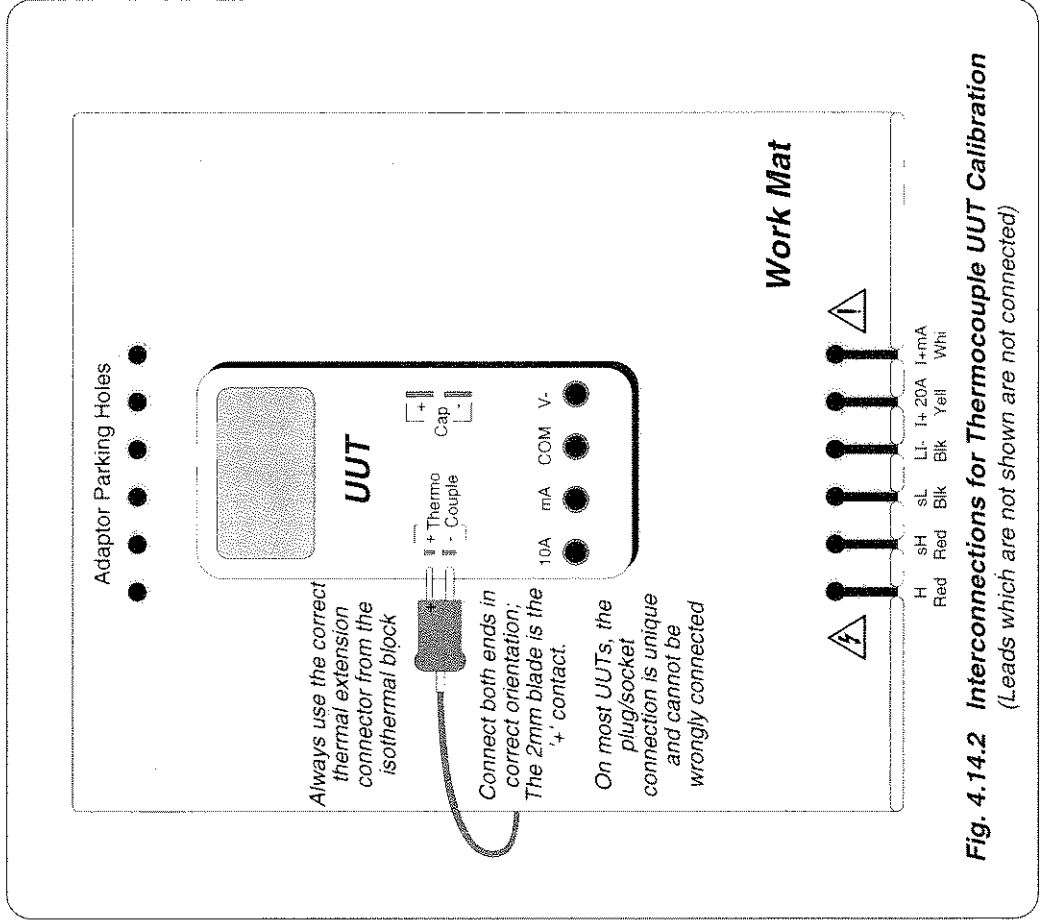

Fig. 4.14.2 Interconnections for Thermocouple UUT Calibration
The general connection scheme for UUT calibration is illustrated in Fig. 4.14.2. Always use the correct extension cable from the thermocouple socket on the isothermal block to the UUT thermocouple input. Observe the correct polarity, otherwise spurious junctions may be set up.
1. **Connections** Connect the 9100 to the UUT as shown in *Fig. 4.14.2*, and ensure that both instruments are powered ON and warmed up. Ensure that the CJC pod fitted to the leadset connection block (or 9100 front panel) is the same unit that was calibrated together with the 9100 unit in use.